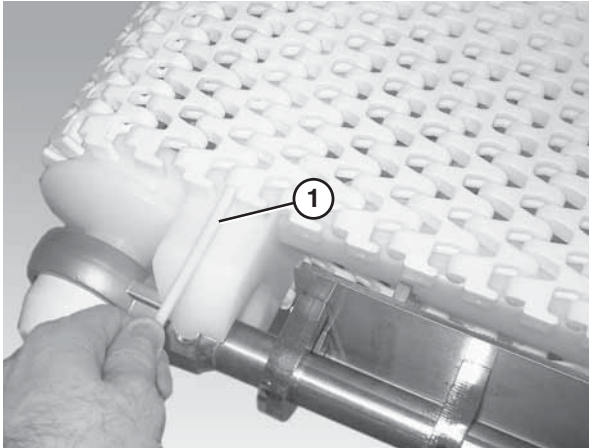

Figure 46
6. Insert the belt rod (Figure 46, item 1).